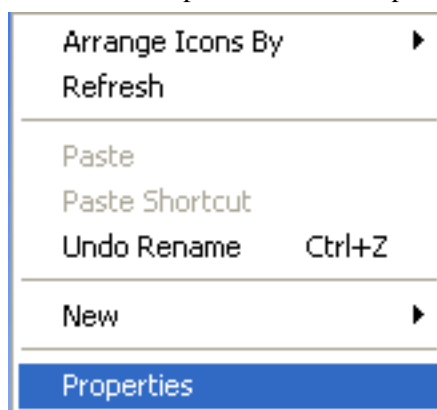

图 3-1
1. Click on right key on the blank of desktop, there will be “Option”, as shown in figure 3-1.